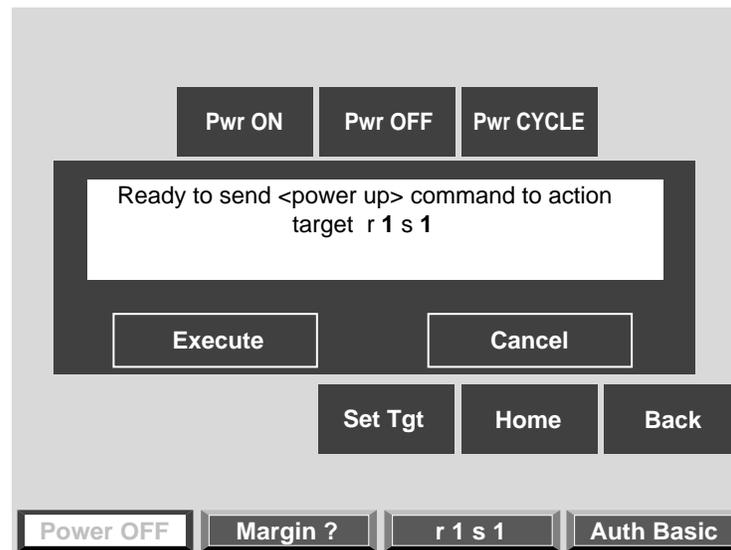

Figure 2-14 Command Confirmation Window
6. When you select **Pwr On**, a Command Confirmation window appears, as shown in Figure 2-14. This window shows the target items (the bricks to be powered on, for example) and command that will be executed on those target items. Select **Execute** from this window. The Command Confirmation window will stay open until the command is executed successfully.